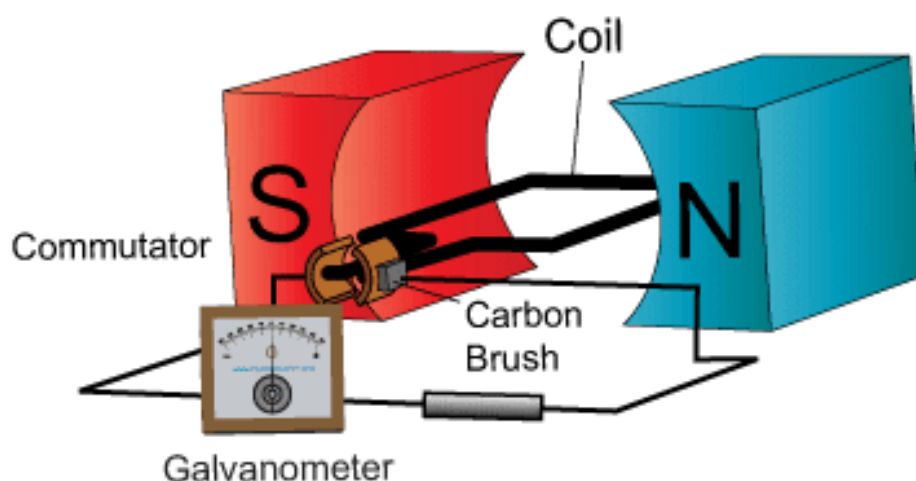

Figure.1.1. Simple loop Generator.
1.1.2. Simple loop Generator. A single turn rectangular copper coil rotating about its own axis in a magnetic field provided by either permanent magnet or an electromagnet is shown in the figure 1.1.
1.2.2. Production of Induced emf by simple loop DC generator. A single turn rectangular copper coil ABCD rotating about its own axis in a magnetic field provided by either permanent magnet or an electromagnet is shown in the figure 1.1. The two ends of the coil are joined to two slip-rings 'a' and 'b' are insulated from each other and from the central shaft. Two collecting brushes (carbon or copper) press against these slip-rings. Their function is to collect the current induced in the coil and convey it to the external load resistance 'R'.